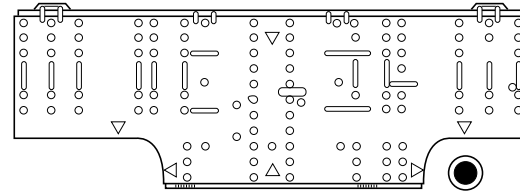

Fig. 3-50
- (1) Attach the rear panel to the wall with the 10 screws provided. (Fig. 3-50)